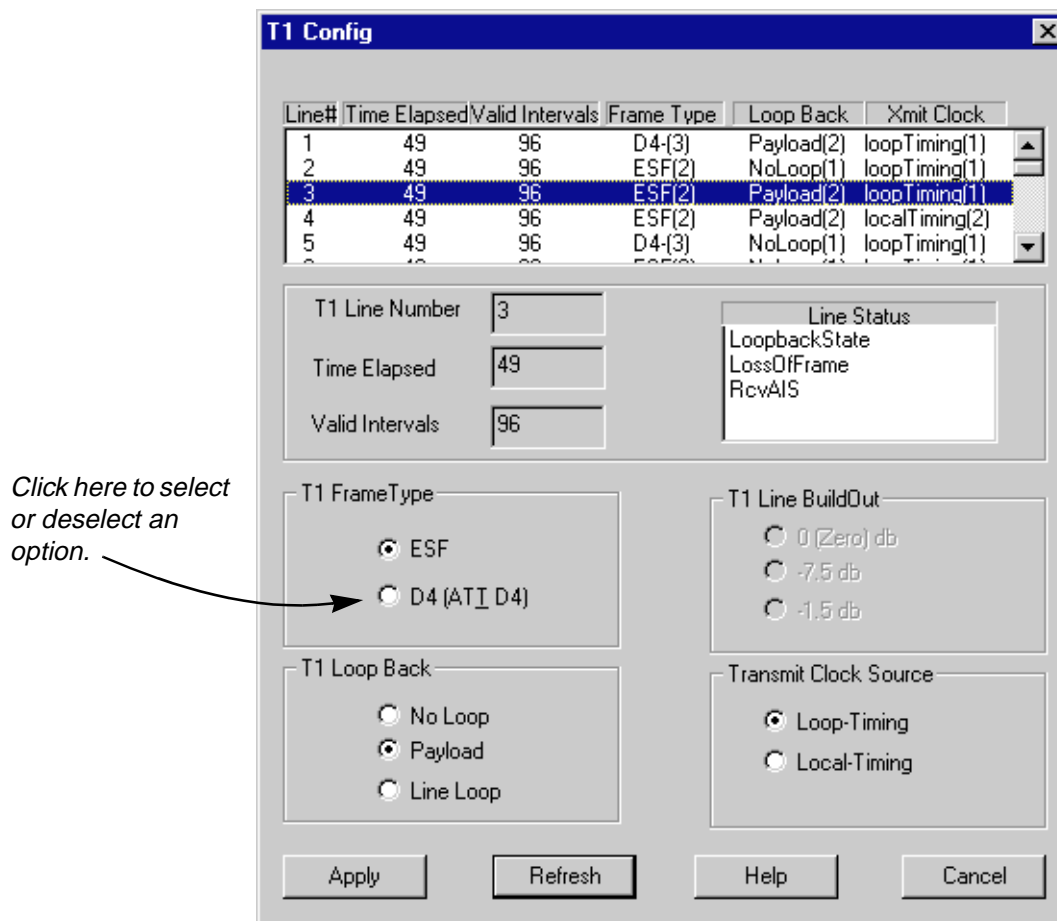

Figure 8-2. The T1 Config Window
2. Select **HSIM W87 Config (T1)**. The T1 Config window, Figure 8-2, opens.